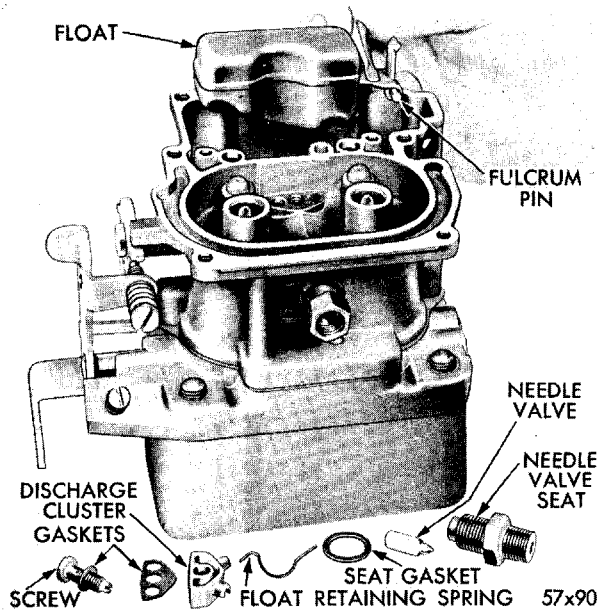

Fig. 9—Removing or Installing Float
(13) Remove the fuel inlet needle valve seat and gasket assembly. Discard the gasket.
(14) Using a small screwdriver, pry out the float fulcrum pin retaining spring. (Cup the hand over the float chamber to prevent the spring from flying out.) Lift out the float and fulcrum pin, as shown in Figure 9.